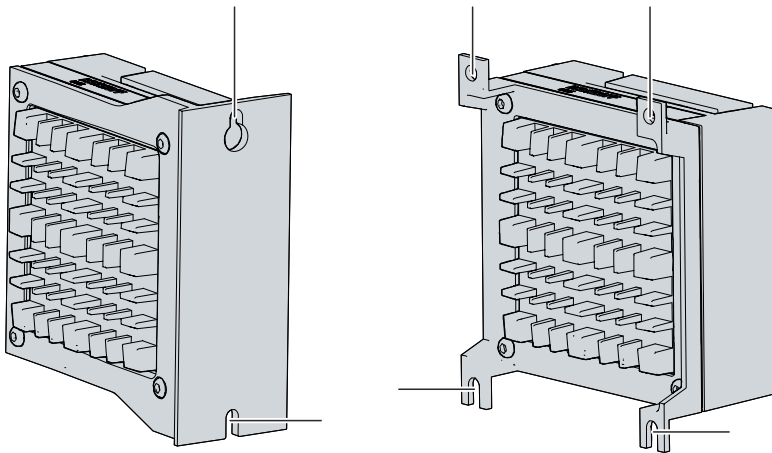

Fig. 15: Mounting plates for control cabinet installation
2. Hang the PC on the screws at the marked points of the mounting plate (see Fig. 15).